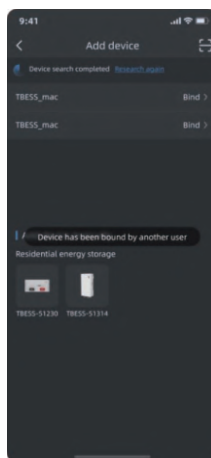

Figure 4
4) Figure 4: The device has been bound. Please unbind it and add it again, or contact the device owner to share the device with you.